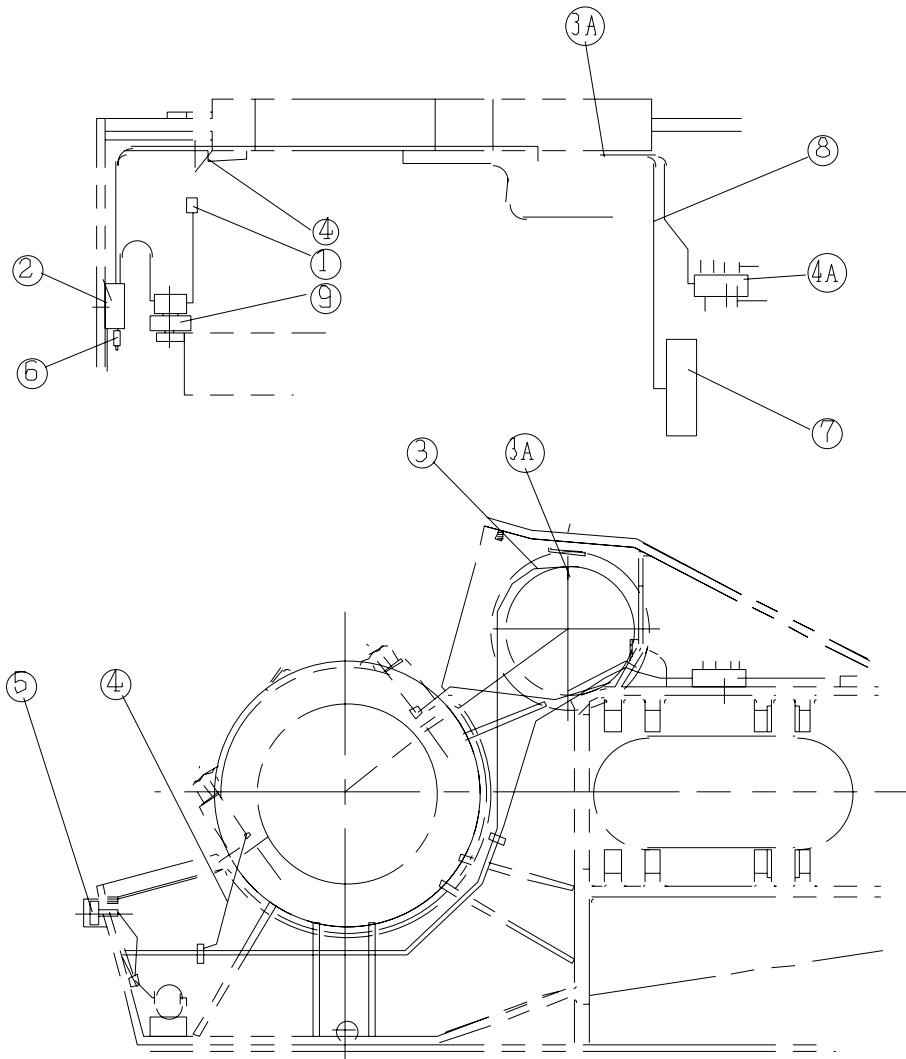

Fig.21 Pressure lubrication system
The controlled flow splash lubrication system is the same on all F-Series pumps, regardless of the type of oil pump drive provided for the pressure system. In the controlled flow splash system, the main gear picks oil up from the reservoir, and when the teeth mesh with the pinion, the oil is displaced into various troughs and compartments in the frame. With reference to Figure 21, the oil thrown into oil trough (7) is directed through the oil tube (8) to the two pinion bearings.
(1) Nozzle (2) retainer (3) bolt (4) crosshead pin (5) oil passage
The pressure lubrication system, incorporating the oil pump for the F-series pumps, is shown in Figure 21: In this system, filtered oil is supplied to the pump through the suction filter (1) and is discharged from the pump into the manifold block (2) and nozzle (3A). Oil is distributed into the main bearing oil line (4) and the crosshead compartment oil distributor (4A) located above the crosshead compartment. The crosshead compartment oil distributor (4A) distributes oil to the crosshead, crosshead bearings and extension rods.
When installing the internally mounted oil pump (9 Fig .21), position pump so that the back face of the drive gear is flush and parallel with the edge of the main gear, and gear teeth have 0.60~0.90mm clearance.